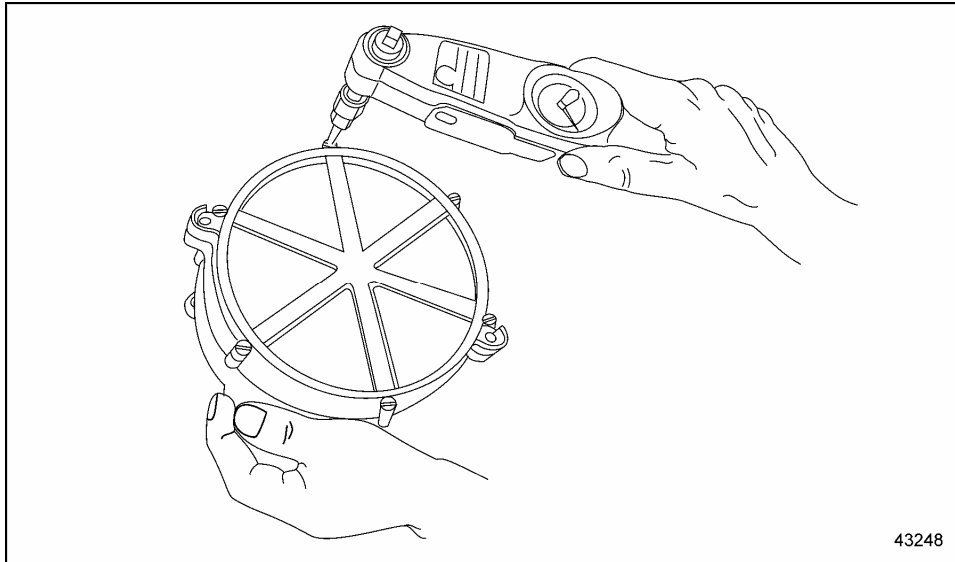

Figure 4 Torque Cover Screws to Specification
7. Install the cover onto the body aligning the cover with the proper bolt holes. Install the six (6) new screws and tighten evenly until bolt heads contact the cover plate.
8. Using a criss-cross pattern, torque screws to 30 lb·in (3.9 N·m). See Figure 4.